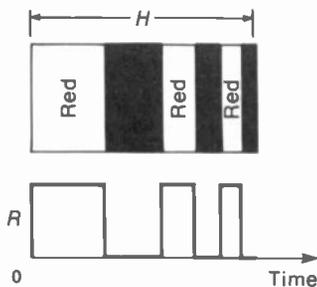

FIGURE 8-5 INCREASING FREQUENCIES OF  $R$  VIDEO SIGNAL FOR NARROWER RED BARS, INDICATING SMALLER DETAILS OF COLOR INFORMATION.
**Color video frequencies.** In Fig. 8-5, all the color bars are red, but the bars just became narrower. This case is just a question of less scanning time across smaller details of picture information. The result is higher video frequencies. For either chrominance or luminance information, the high-frequency components of the